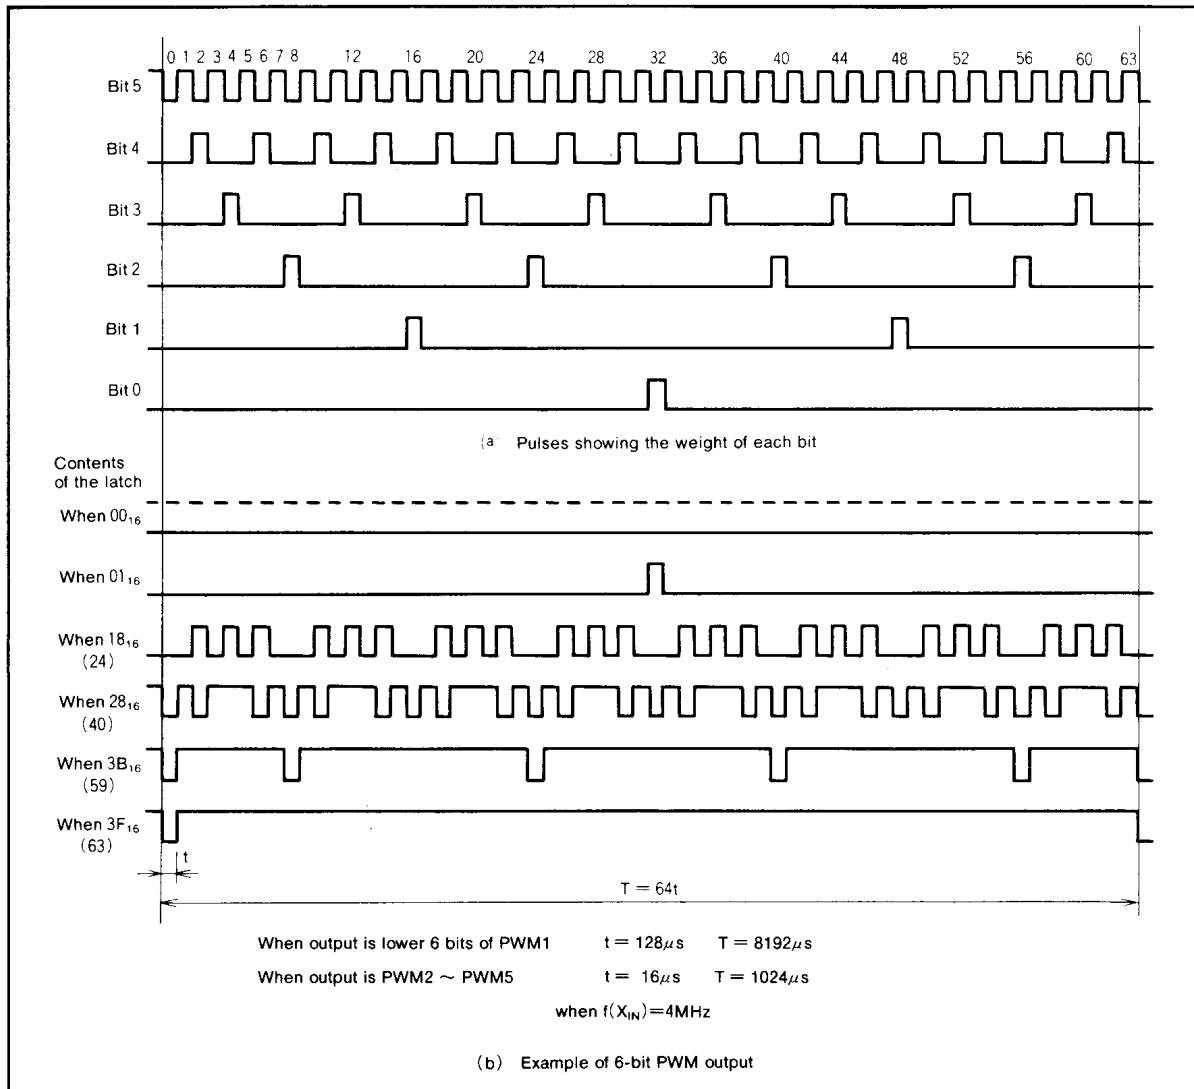

Fig. 16 6-bit PWM timing diagram
(4) Operation of the 6-bit PWMs
The timing diagram of the two 6-bit PWMs (PWM2~PWM5) is shown in Figure 16. One period (T) is composed of 64 (2⁶) segments.
There are six different pulse types configured from bits 0~5 representing the significance of each bit. These are output within one period in the circuit internal section. Refer to Figure 16 (a).
shown in Figure 16 (b). Changes in the contents of the PWM latch allows the selection of 64 lengths of high-level area outputs varying from 0/64 to 63/64. An length of entirely high-level output cannot be output, i.e. 64/64.